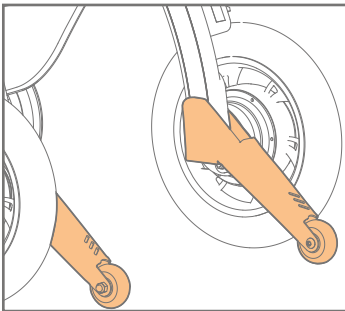

Figure 31: Use the anti tipping aid.
- b. Push the left or right tipping aids (**Figure 31**) down with your left or right foot, while tilting the Rollz Motion Electric towards you with your hands. This way, the front wheels lift off the ground. Now push the Rollz Motion